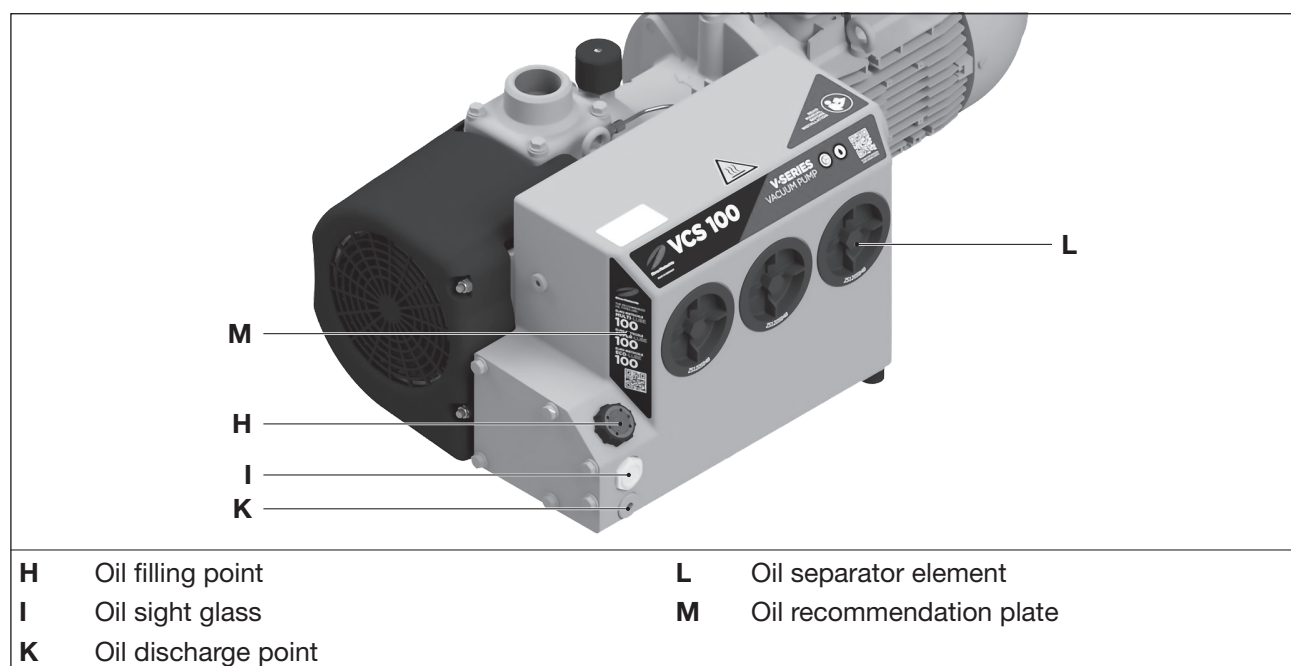

Fig. 7 Oil change and de-oiling
As operating agent, we recommend Elmo Rietschle oils, see oil recommendation plate (Fig. 7/M) as well as Tab. 3 on page 32:
- Open the cap of the oil filling point (Fig. 7/H) and refill oil until it reaches the upper edge of the sight glass (Fig. 7/I).
- Open the catch of the oil filling point (Fig. 7/H), open the oil discharge point (Fig. 7/K) and completely discharge the used oil.
- Close the oil discharge point (Fig. 7/K) and fill in new oil through the oil filling point (Fig. 7/H).
- Check the oil level in the sight glasses (Fig. 7/I).
- Unscrew oil separator elements (Fig. 7/L) with a ring spanner (width across flats 19 mm) counter-clockwise.